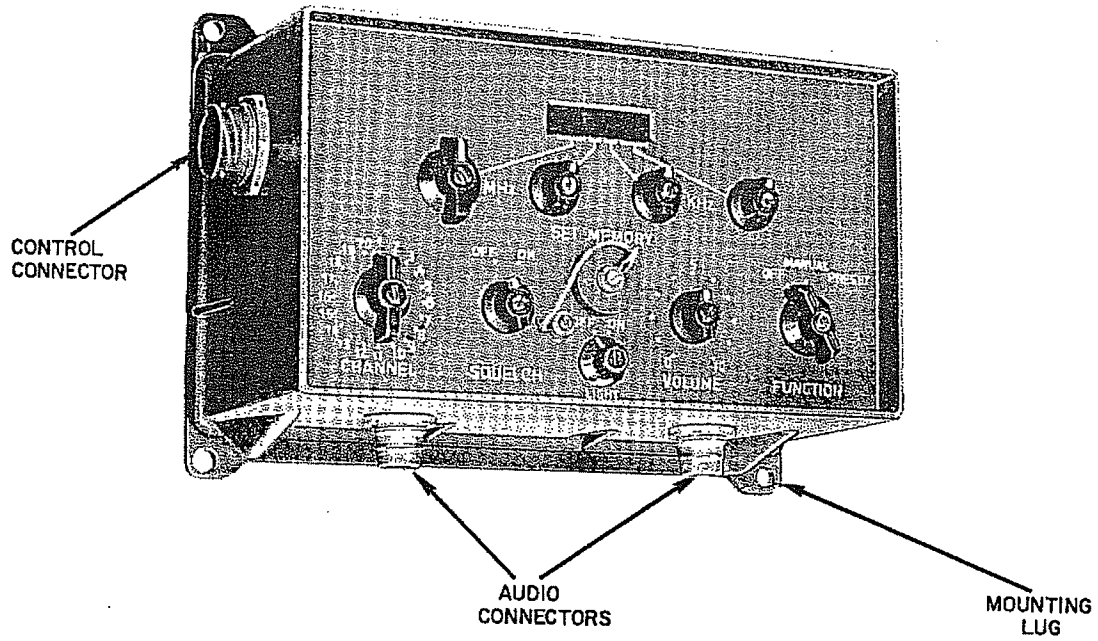

Figure 1-5. Control Box C-2410T
e. Control Box C-2410T (fig. 1-5)